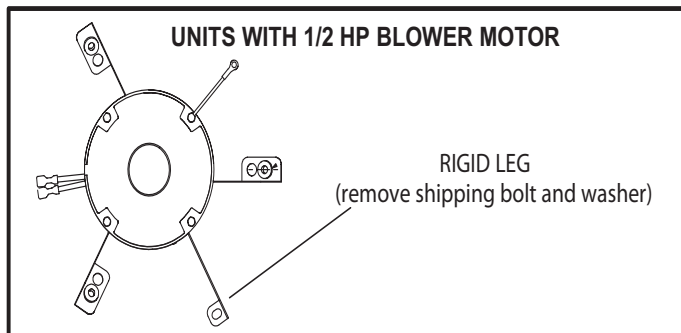

FIGURE 8
**NOTE:** Units with a 1/2 hp blower motors are equipped with three flexible legs and one rigid leg. The rigid leg is equipped with a shipping bolt and a flat white plastic washer (rather than the rubber mounting grommet used with a flexible mounting leg). See Figure 8. **The bolt and washer must be removed before the furnace is placed into operation.** After the bolt and washer have been removed, the rigid leg will not touch the blower housing.